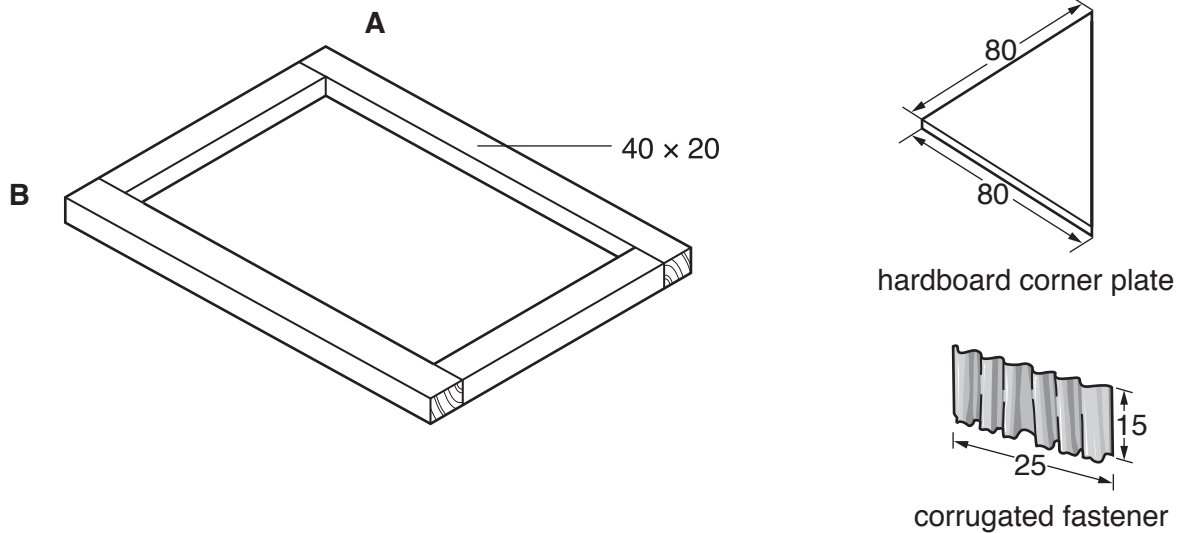

Fig. 6
- 8 Fig. 6 shows a wooden frame construction, a hardboard corner plate and a corrugated fastener.
Draw on Fig. 6 to show how the frame construction could be strengthened by means of: